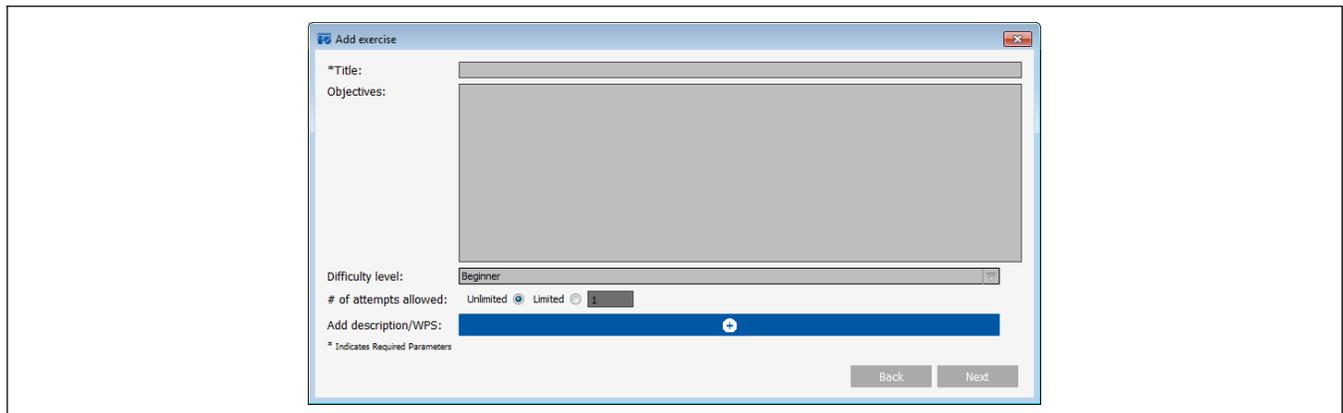

Figure 9-18. Add Exercise Screen
D. Designing The Welding Exercise (Figure 9-18)